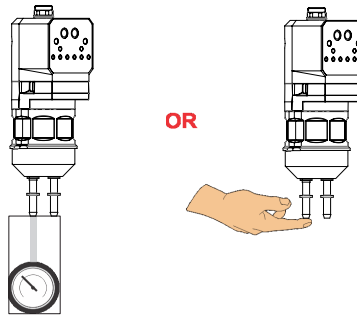

Figure 12 Vacuum Check Options
3. Disconnect the powder tubing from the pump. Connect a vacuum gauge to the suction fitting or place your finger over the fitting as shown in Figure 12.